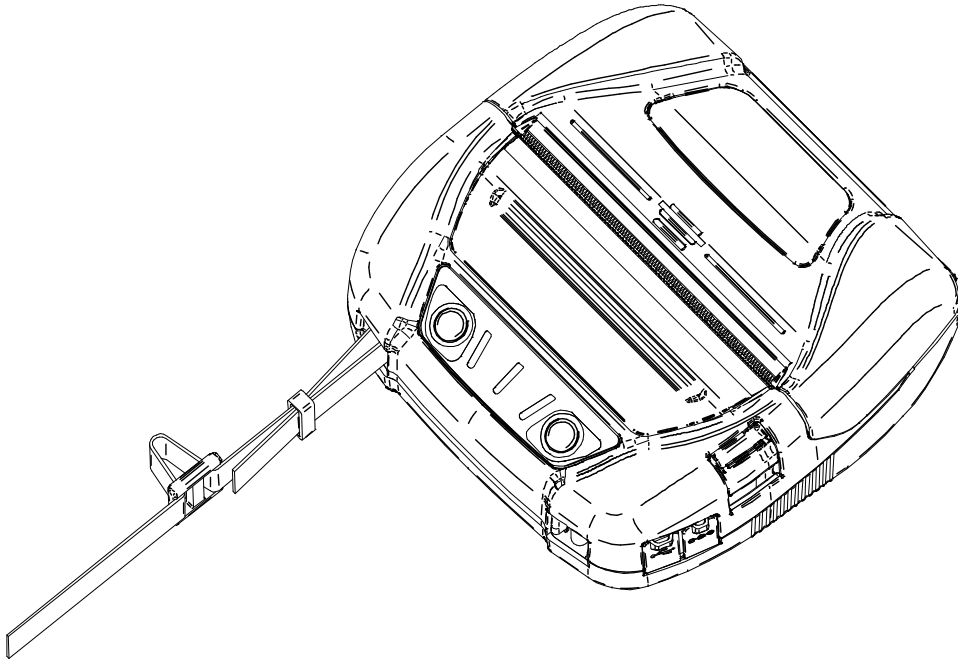

Figure 14-5 Shoulder Strap Installation (2)
- (2) Pass the tip of folded shoulder strap through the ring as shown in Figure 14-5.